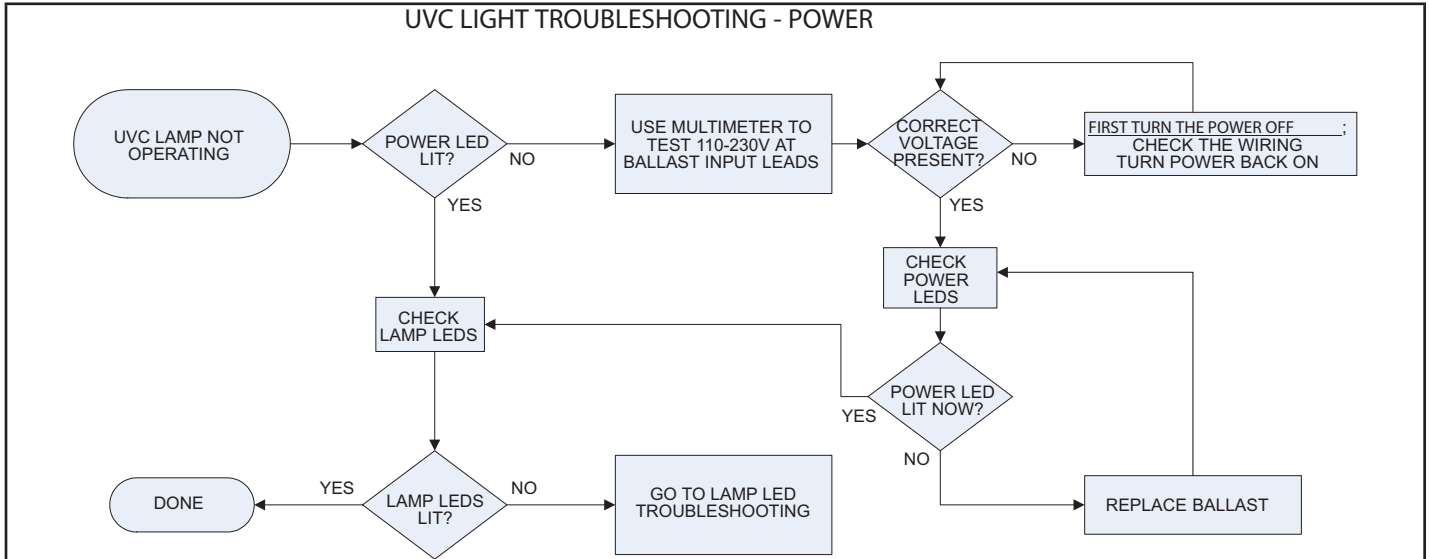

FIGURE 38
- 7 - Wear cotton gloves or use a cotton cloth when handling the new lamp. Place the new lamp in the holder clips of the UVC assembly. Verify that the lamp flange at the connector end is sandwiched between the lamp holder clip and the sheet-metal end stop (see FIGURE 38).